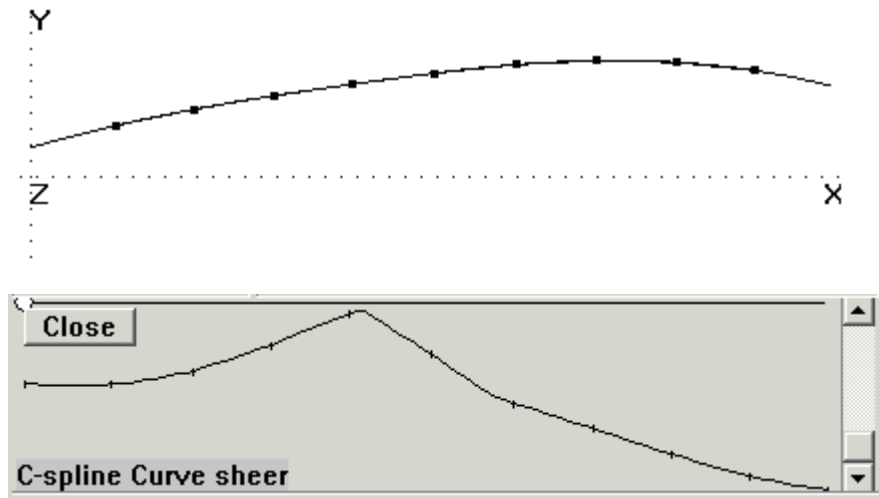
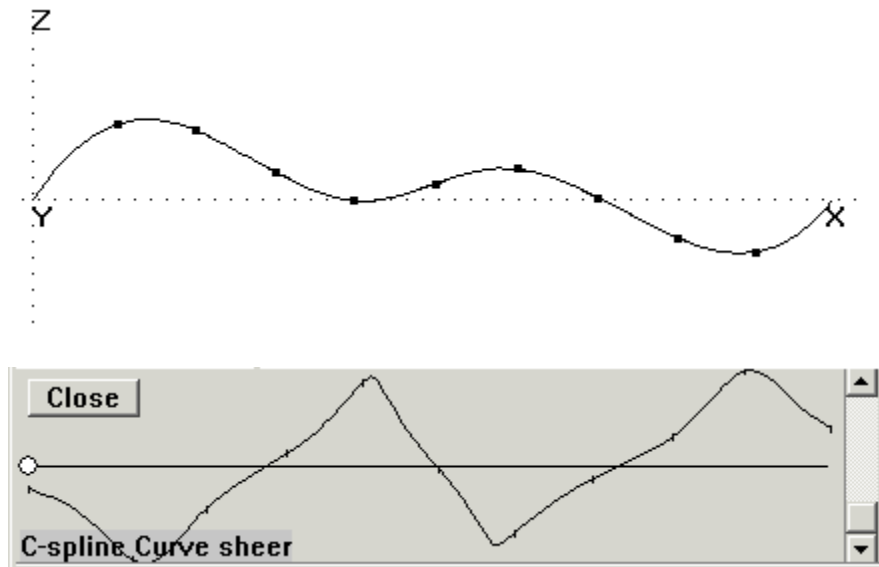

Fig. 1. Curve with tickmarks (top) and graph (bottom) in Front view.
Fig. 2. Curve with tickmarks (top) and graph (bottom) in Top view. There are three inflection points in this view.
First, the curvature profile graph is a plot of the curvature of the selected curve vs. arc length in its current screen projection. For instance, Fig. 1 and Fig. 2 (see below) show a curve and its curvature profile in Front view and in Top view (the curve and curvature profile would vary at all rotational increments in between as well). Since the curvature profile is marked at t -increments of .1, turning on tickmarks for the curve can provide a good comparative reference. (You turn on tickmarks using the Properties Manager; in the 'Show tickmarks' box click 'True') The circle around one end of the graph axis shows which end of the graph corresponds to the $t = 0$ end of the selected curve.
- negative curvature (below the graph axis) indicates the curve is curving toward the right as you move in the direction of increasing t (see Fig. 1 below)
A zero crossing of the horizontal axis in the curvature profile is an inflection point on the curve (see Fig. 2 below).
Let's read the graph in Fig. 1. The question you might have about the curve in this view is whether or not there is an inflection between $t = .3$ and $t = .5$. The graph proves there is not — the graph does not cross the axis; the curvature is all negative (below the axis). The graph shows a slight increase in (negative) curvature at the beginning of the curve, then a gradual decrease to the area of least curvature between $t = .4$ and $t = .5$, then a gradual increase for most of the rest of the curve.
The graph in Fig. 2 is for the same curve as in Fig. 1, but in a different view. It shows three inflection points. The curvature gradually increases and decreases; there is no sharp discontinuity in the curve. By contrast, the graph in Fig. 3 (for a degree-2 B-spline Curve) shows a sharp discontinuity in curvature, at $t = .5$.